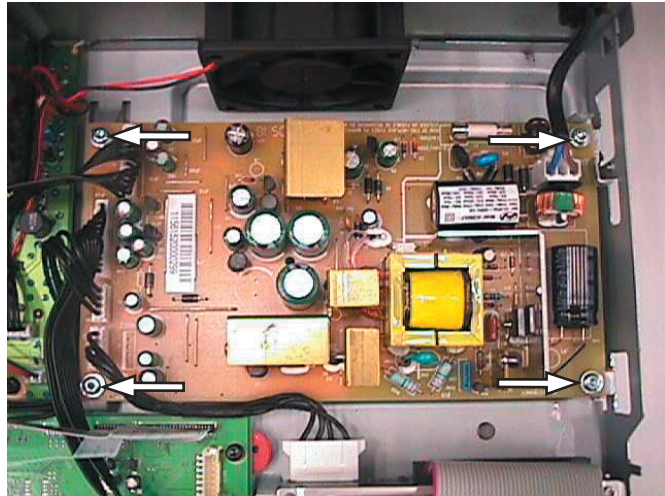

Figure 4-8
- 1) Remove 4 screws to loosen the PSU Board 1006 as shown in Figure 4-8.